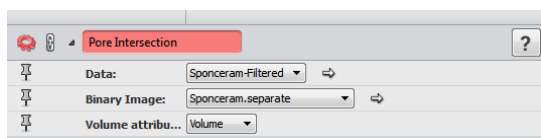

Figure 24.24: Parameters of the Pore Intersection Module
8. Compute the intersection percentage of the pores for the filtered network. Create a *Pore Intersection* module on the last result and connect the result of the *Separate Objects* module to the Binary Image port. The module will output a new pore network code, including an intersection column that represents the percentage of intersection with the real pore space (see Figures 24.24